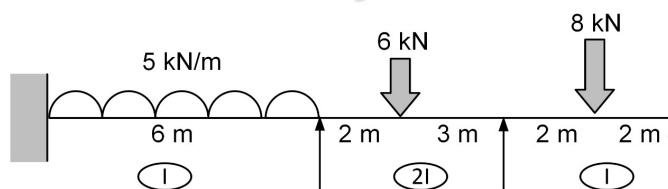

Figure 1
- Analyze the beam in figure 1 using moment distribution method. Assume E constant.